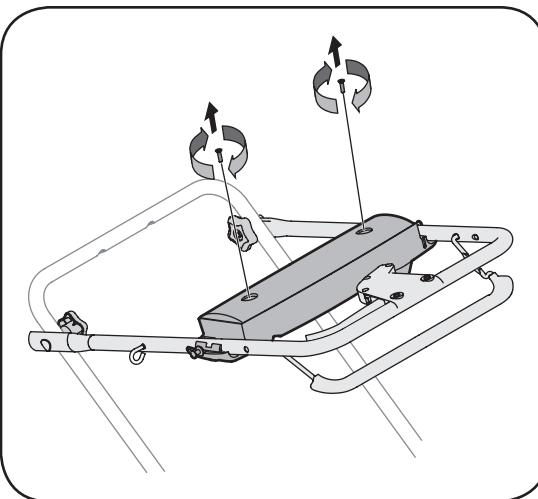

Figure 20
1. Loosen round handle knobs securing upper and lower handles and carefully fold the upper handle down toward the lower handle as shown in Figure 20.
2. Remove the two screws securing battery cover to battery housing and place them to the side. See Figure 20.
1. Open the battery cover as described in **Replacing Battery**. Refer to Figure 20.